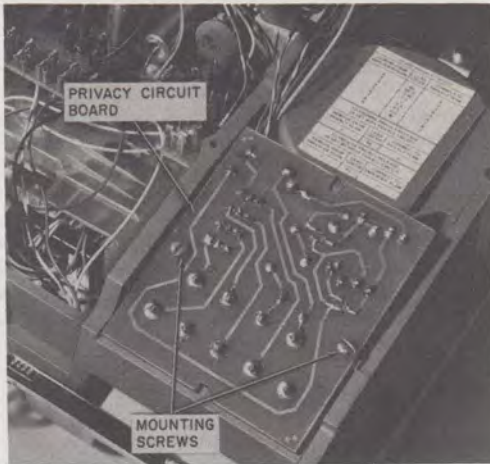

Fig. 14—Mounting Privacy Circuit
(3) Mount privacy circuit board on the two bosses located under the front handset pocket with component side of board facing into the upper housing (Fig. 14).
(4) Secure board using two screws furnished with kit of parts.
(5) Replace lower housing.